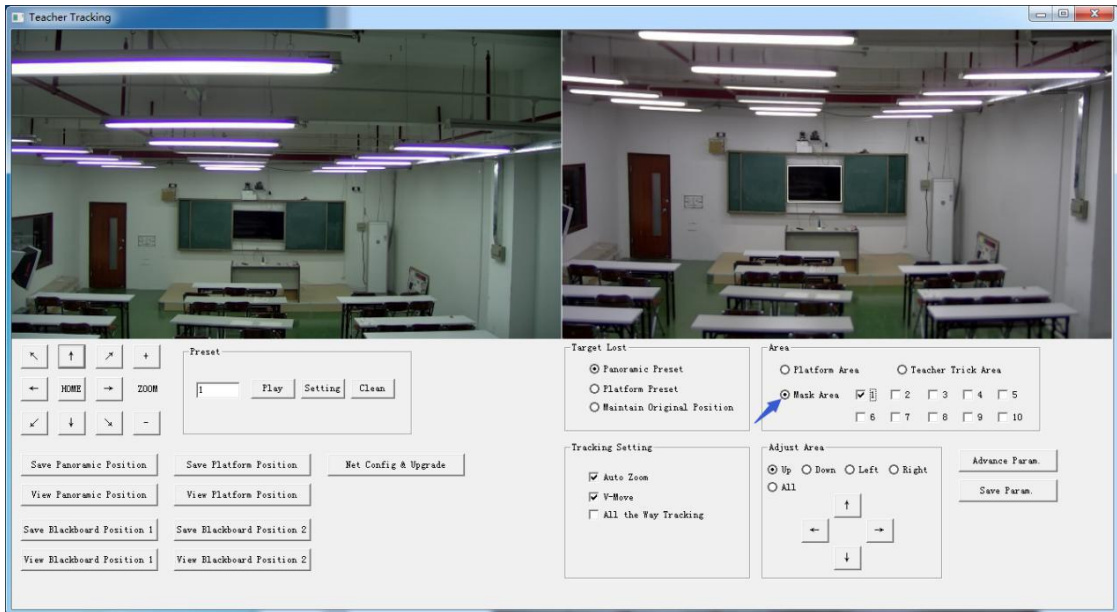

Figure 5.2-5 Operation interface
**Mask area:** Mask area is usually the area which may impact result of teacher tracking, such as places which may have dynamic changes such as TV, projector, doors and windows. See Figure 5.2-5: